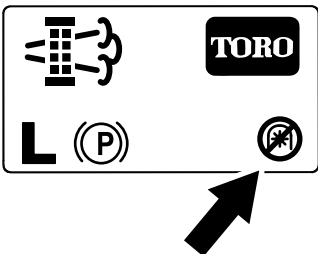

Figure 73
**Note:** The Home screen displays the PTO disabled Icon (Figure 73).
**Note:** The Home screen displays the PTO disabled icon; refer to Figure 73 in Parked Regeneration Messages \(page 45\).